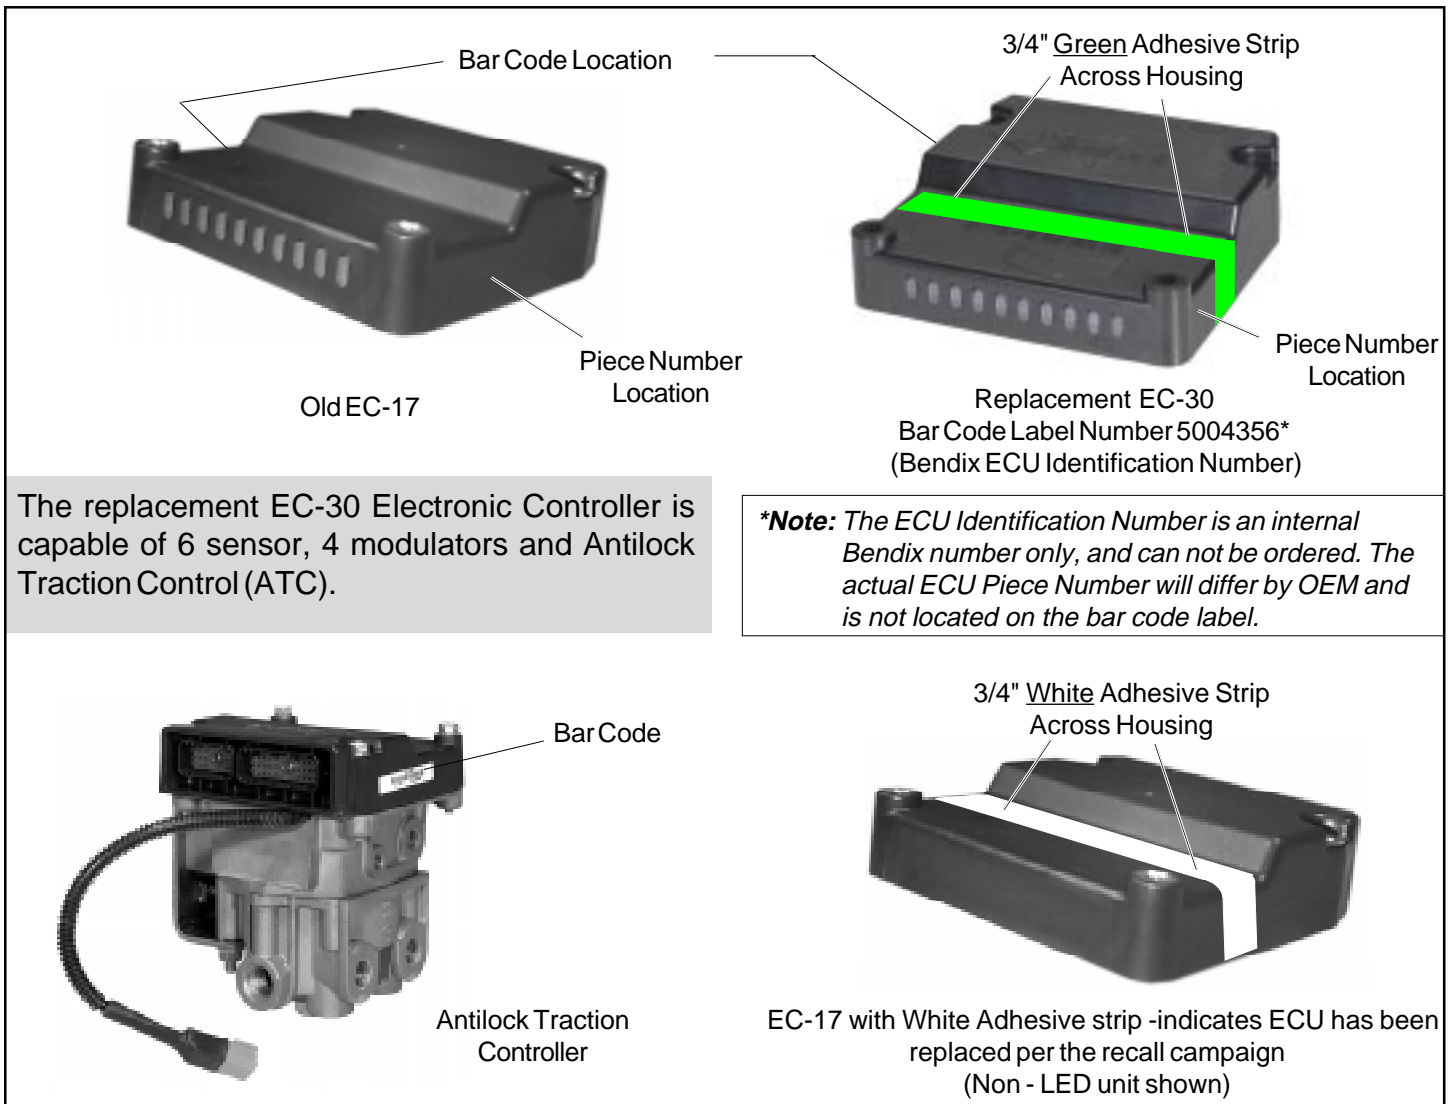

FIGURE 1 - EC-17 AND NEW REPLACEMENT ABS EC-30 CONTROLLER
3. All EC-17 controllers without a white adhesive strip are suspect for possible changeout. The current production and recall replacement EC-17 controllers will have a bar code ECU identification number 5008311 (with LEDs) or 5008313 (without LEDs) located on the side of the housing. The actual piece numbers will be in one of the following two series of numbers, either 5008XXX or 5009XXX. These numbers are pin stamped into the housing of the controller and may be more difficult to read. The production EC-30 controllers have an ECU Identification number 5004356 on the bar code label. The actual piece number, which will be in the series 5009XXX, is pin stamped into the housing of the controller. See Figure 1 for the location of the bar code label and pin stamped piece number.